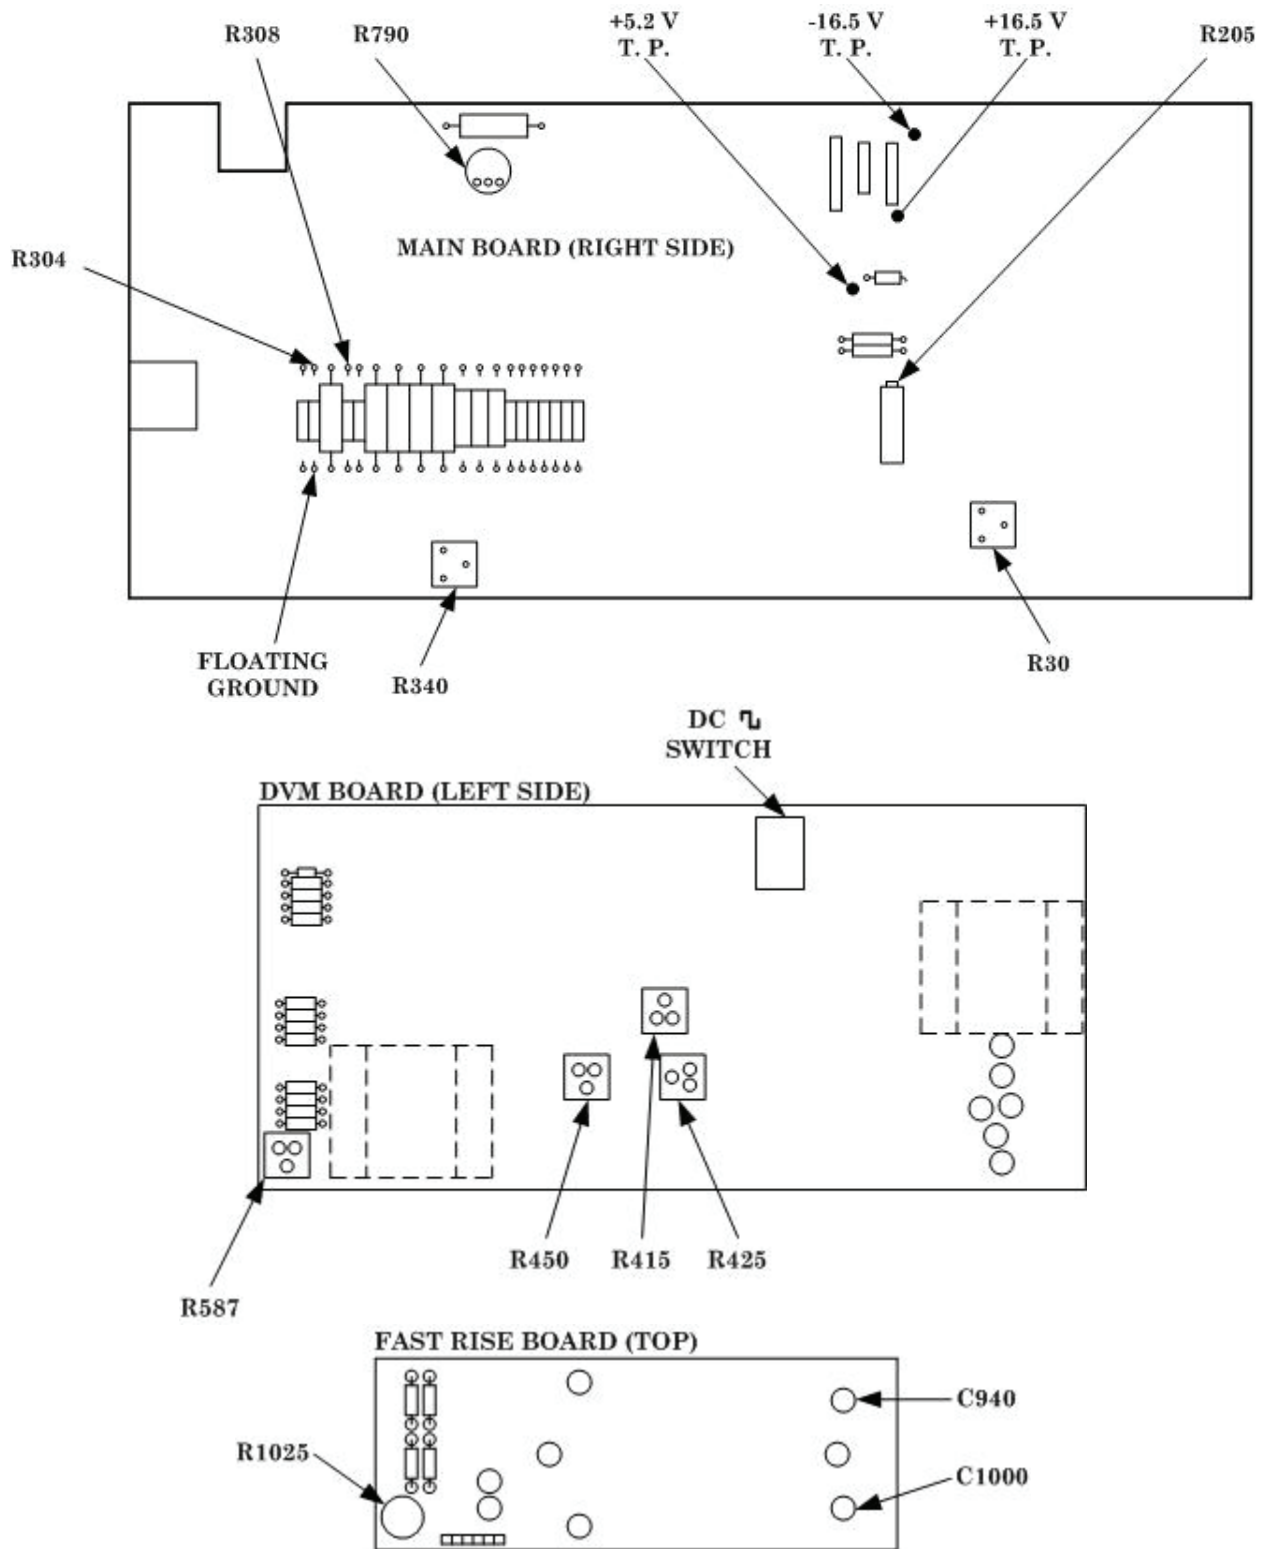
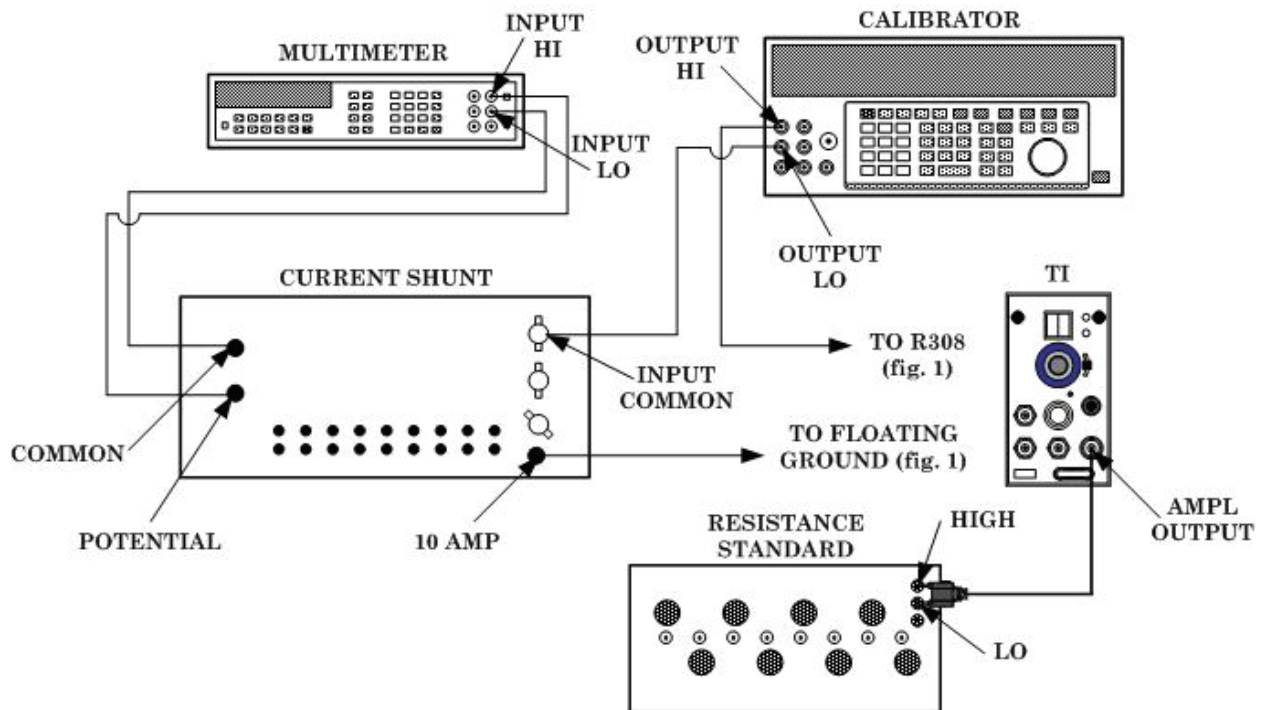

Figure 1. Calibration generator - adjustment locations.
Figure 2. Amplitude output - equipment setup.
- a.** Set TI DC SWITCH (internal (fig. 1)) to DC (up) position.
- (13) Record multimeter indication on 0.1 volt **AMPLITUDE** switch position.
- (14) Deenergize power module and remove TI.
- (15) Connect equipment as shown in figure 2.
Verify the multimeter indication at the common and potential terminals on the dc current shunt (fig. 2) when setting levels in (20) and (24) below and when changing **AMPLITUDE** setting in (21) and (25) below.
- (20) Readjust calibrator until multimeter indicates exactly 10 times the value recorded in (13) above.
- (21) Turn **AMPLITUDE** switch to **10m**. Multimeter will indicate between 99.75 and 100.25 mV.
- (22) Record multimeter indication.
- (23) Disconnect lead from R308 and connect to R304 (fig 1).
- (24) Adjust calibrator until multimeter indicates exactly 10 times the value recorded in (22) above.
(25) Turn **AMPLITUDE** switch to **1m**. Multimeter will indicate between 99.75 and 100.25 mV.
- (1) Adjust R205 (fig. 1) until multimeter indicates 100.00 V (R).
- (2) Adjust R340 (fig. 1) until multimeter indicates 10.000 V (R).
- (1) Adjust R450 (fig 1) until **DEFLECTION ERROR** indicates 0.1% **HIGH**, then 0.1% **LOW**, and for a final adjustment of 0.0% with both **HIGH** and **LOW** indicator lights slightly illuminated (R).
- (2) Adjust R425 (fig 1) until **DEFLECTION ERROR** indicates 6.8% **LOW**, then final adjustment to center of 6.8% **LOW** (R).
(3) Adjust R415 (fig 1) until **DEFLECTION ERROR** indicates 7.3% **HIGH**, then final adjust to center of 7.3% **HIGH (R)**.
- (1) Deenergize power module.
- (2) Set TI DC \square SWITCH (internal (fig. 1)) to \square (down) position.
- (3) Energize power module.
- (4) Turn TI **AMPLITUDE** switch to 10.
(5) Connect frequency counter to TI **AMPL OUTPUT**. If frequency counter does not indicate between 952.38 and 1052.6 hertz, perform **b** below.
b. Adjustments. Adjust R587 (fig. 1) until frequency counter indicates 1.00 millisecond (R).
(1) Connect oscilloscope **Vertical 1** input to TI **AMPL OUTPUT**, using 50 Ω feedthrough termination.
(2) Turn **PERIOD** switch to 1 μ s and **PULSE AMPLITUDE** control fully clockwise. Set mode switch to **HIGH AMPL**.
(3) Adjust oscilloscope for a stable display with vertical scale set to 1 V. If oscilloscope does not indicate at least 5 volts peak-to-peak, perform **b** below.
(4) Repeat (3) above for each **PERIOD** switch position.
(5) Remove termination from equipment setup.
(6) Turn **PERIOD** switch to 1 μ s. Oscilloscope display amplitude will be at least 60 volts peak-to-peak.
(7) Turn **PULSE AMPLITUDE** control fully counterclockwise. Oscilloscope display amplitude will be 6 volts or less.
b. Adjustments. Adjust R790 (fig. 1) until oscilloscope display indicates 5.2 peak-to-peak (R).